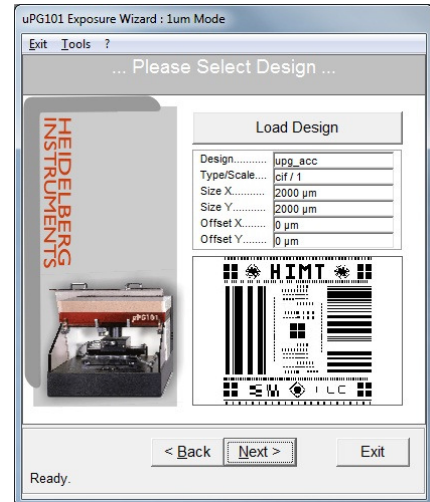
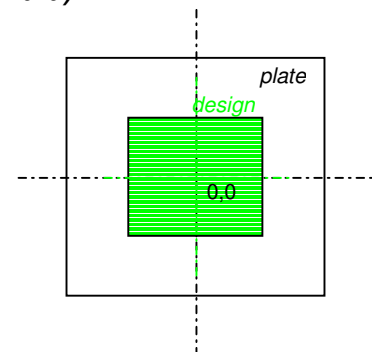

Figure 28: Design window (Wizard)
Figure 29: Standard design positioning
1. Make sure the cover lid (1) is closed (interlock lamp (12) off) and the compressed air is present. Click on the button **Load Substrate**. The stage moves to the loading position at the front of the machine, and the **Loading Status** window opens on the User PC.
2. Wait until all movement has finished. Open the cover lid. On the chuck, mount the alignment pins (masks: three, wafers: two) in the appropriate positions for the plate size to be used (see left part of Figure 28 on next page).
- Make sure the resist coated side of the substrate is turned up, and position it against the alignment pins. If the substrate bears alignment marks that should be used for exposure, **note that the coordinate system of the stage is oriented such that the x axis corresponds to a backward-forward movement, while the y-axis corresponds to a left-right movement when standing in front of the machine** (see Figure 29). If a vacuum region bigger than 2" is required, activate the required vacuum region extensions using the vacuum field adjustment screws (4) (see right part of Figure 28, and Figure 30). Switch on the vacuum with the vacuum turn knob (5). Check whether the plate is really held tight by trying to move it slightly sideways. If plate is not held, switch off the vacuum and clean plate backside and chuck before trying again. If problems persist, use a different substrate.
- Wait until all movement has finished. Open the cover lid. On the chuck, mount the alignment pins (masks: three, wafers: two) in the appropriate positions for the plate size to be used (see left part of Figure 28).
4. Make sure the resist coated side of the substrate is turned up, and position it against the alignment pins. If the substrate bears alignment marks that should be used for exposure, **note that the coordinate system of the stage is oriented such that the x axis corresponds to a backward-forward movement, while the y-axis corresponds to a left-right movement when standing in front of the machine** (see Figure 29). If a vacuum region bigger than 2" is required, activate the required vacuum region extensions using the vacuum field adjustment screws (4) (see right part of Figure 28, and Figure 30). Switch on the vacuum with the vacuum turn knob (5). Check whether the plate is really held tight by trying to move it slightly sideways. If plate is not held, switch off the vacuum and clean plate backside and chuck before trying again. If problems persist, use a different substrate.